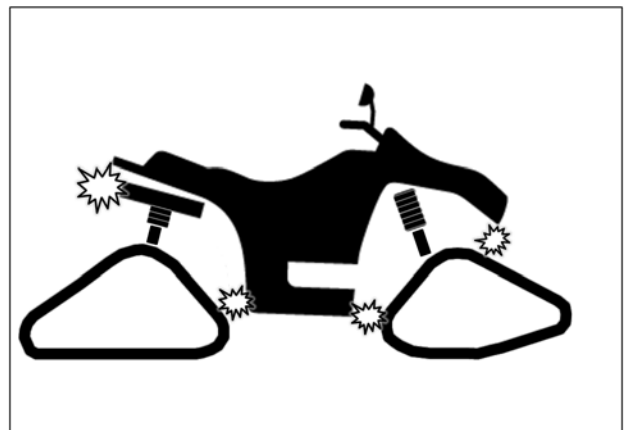

Fig. 21
- Verify for possible contact between Track System and lower fender corners. See Fig. 21